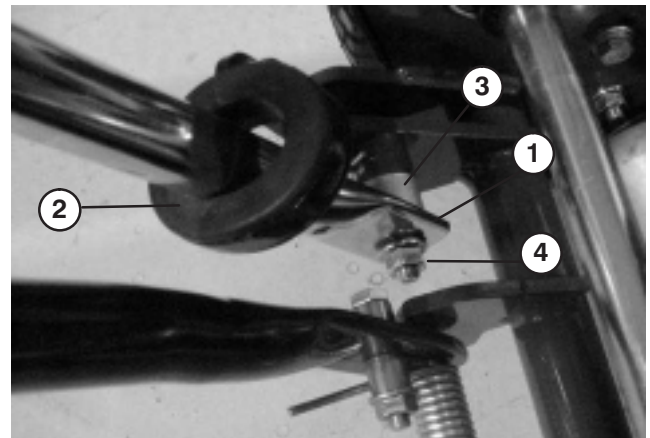

Figure 4
2. Insert the handle ends through the slots in the handle support arms (Fig. 4).
3. Squeeze the handle ends inward and install them on the step of the pivot pin (Fig. 4).
4. Secure the handle to the capscrew and pivot pin with the flange lock nut (Fig. 4).